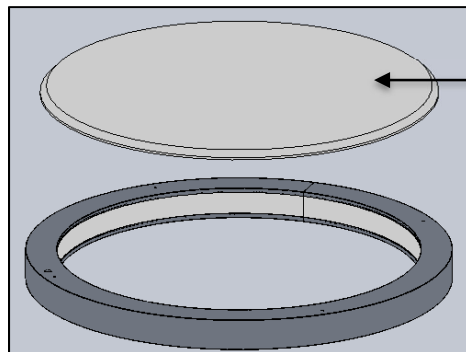

FIG. 24 - RV1 (INNER ILLUMINATION) (WITH ACOUSTIC PANEL SHOWN)
13. If there is option for Acoustic Panel, place the Acoustic part above the fixture body such that it is eventually balanced and assembly concentrically to the axis of fixture body as shown in FIG. 24 and 25 below for both RV1 and RV2 Series.